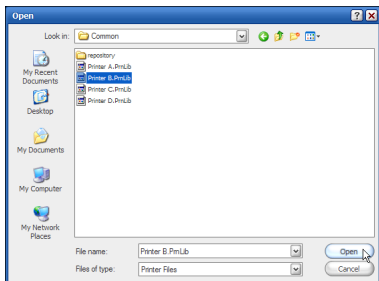

Figure 3—Common Folder
3. In the Open dialog, browse to the **ONYX Graphics > Production House > Common** Folder. This folder lists all the installed printers with their associated .PrnLib files (see Figure 3).